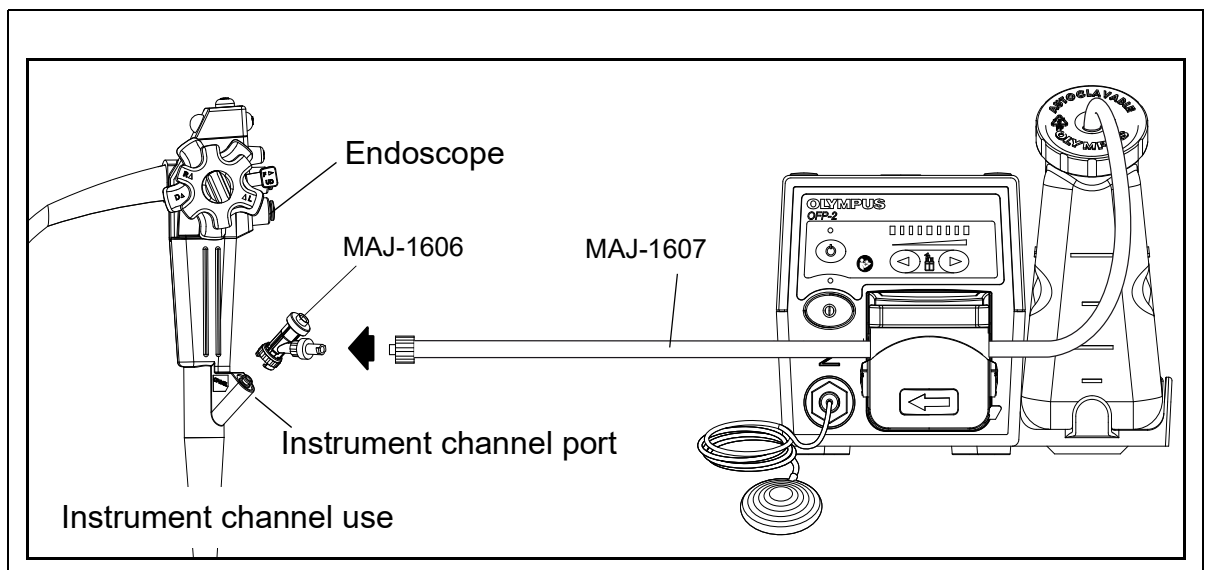

Figure 3.9
15. **Instrument channel connection (MAJ-1606/7):** Refer to Figure 3.9 and connect the Luer lock connector on the MAJ-1607 water tube to the MAJ-1606 instrument channel adaptor attached to the instrument channel port on the endoscope.